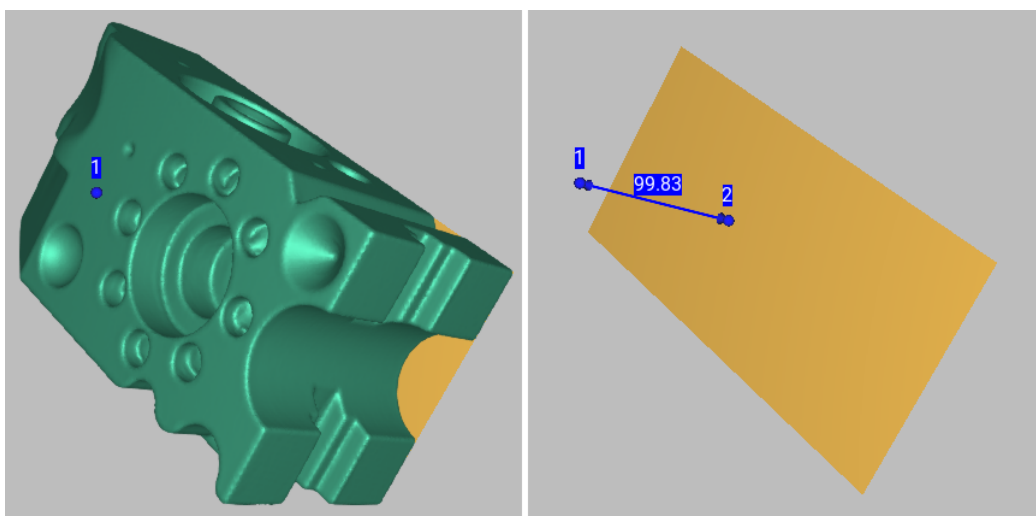

Figure 215: Thickness measurement: selecting a point on the side opposite to the plane (left), clicking the plane to determine distance to it (right).
1. In the *Construct* panel, build a plane (shown in orange in Figure 215) that fits the side surface of the model (find out in Constructing CAD Primitives how to do this).
4. Select any point on the side of the model opposite to the plane (Point 1 in Figure 215, left).
Artec Studio will automatically construct a perpendicular to the plane, determine the point of their intersection (Point 2 in Figure 215, right), and calculate the distance between the two points. This distance gives you the thickness of the model.